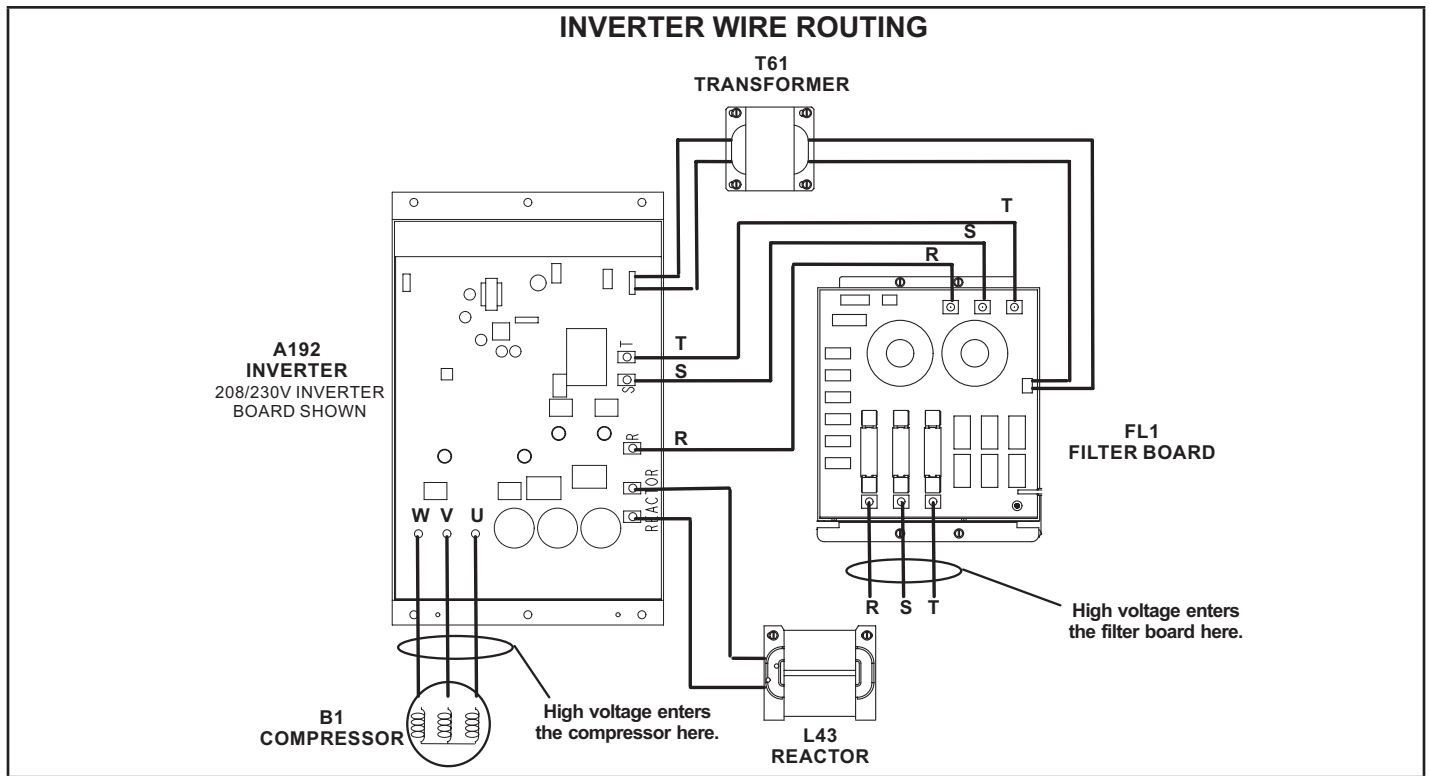

FIGURE 12
- A communication issue - check MODBUS communication wire for good connections between the Unit Controller and the inverter board. See table 2 for inverter-related alarms. Inverter component wire routing is shown in figure 12.